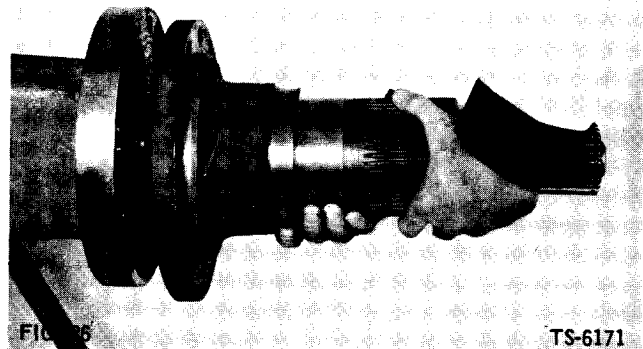

FIG. 26
26. Remove spindle from axle housing (Fig. 26).